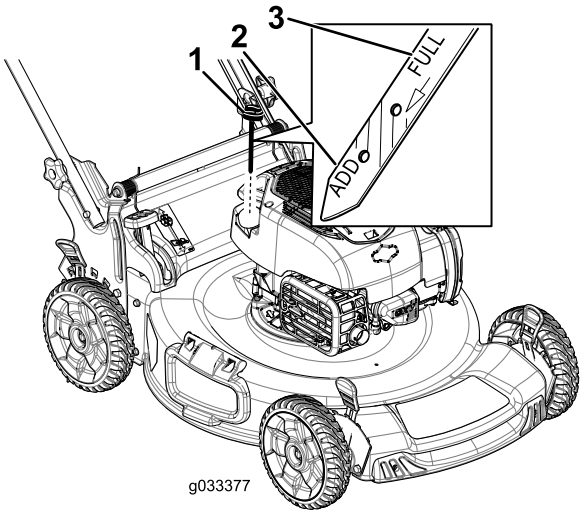

Figure 27
- 3. Remove the dipstick by rotating the cap counterclockwise and pulling it out (Figure 27).
10. Read the oil level on the dipstick (Figure 27).